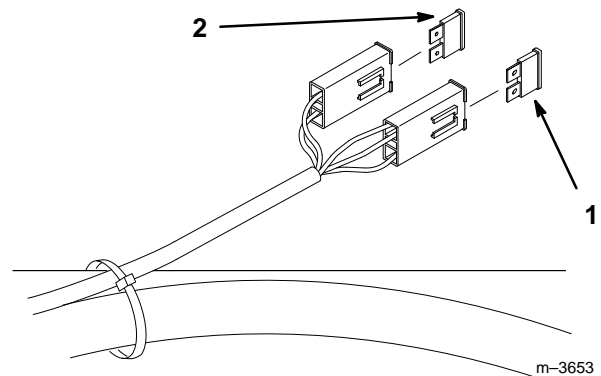

Figure 33
1. Raise the seat to gain access to fuse holder (Fig. 33).
2. To replace fuses pull out on the fuse to remove it (Fig. 33).